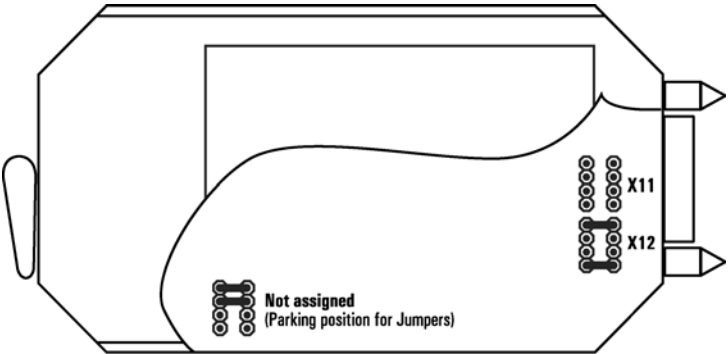

Fig. 2.283 Jumper settings for the SRU: Remote feeding
- Settings settings for remote feeding (Fig. 2.283)